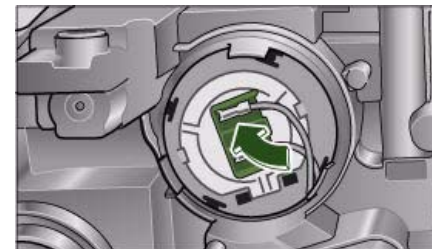

Fig. 297 Inserting bulb for dipped headlights
- Press the connector in the direction of the arrow ⇒ *page 309*, fig. 297 until the bulb engages.